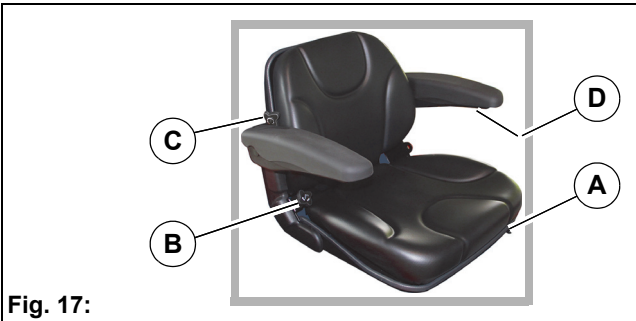

Fig. 17:
- Push lever **Fig. 17-A** outwards.
- Release lever **Fig. 17-A** and let the driver's seat engage.
Adjust the tilt of the backrest by turning the handwheel **Fig. 17-B**.
Adjust the tilt of the armrests by turning the wheel **Fig. 17-D**.
The seat suspension can be continuously adjusted to the weight of the driver (50–120 kg) by turning the handwheel **Fig. 17-C**.
- Drivers who weigh less turn the handwheel **Fig. 17-C** to the left.